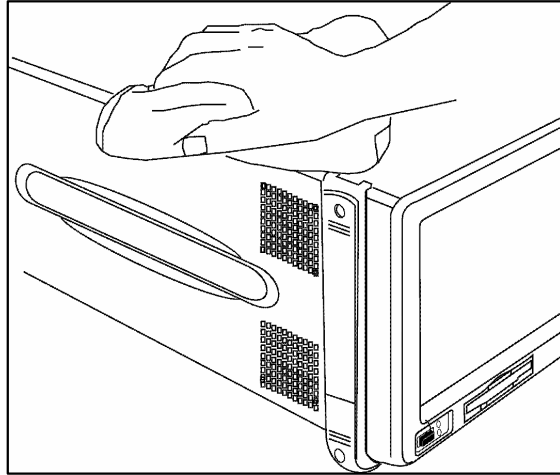

Figure 9-3: Maintenance of the exterior of the unit
Use the measurement system as shown in Figure 9-3 to check the level accuracy of the unit.
- ③ Set up the measurement system as shown in Figure 9-3.